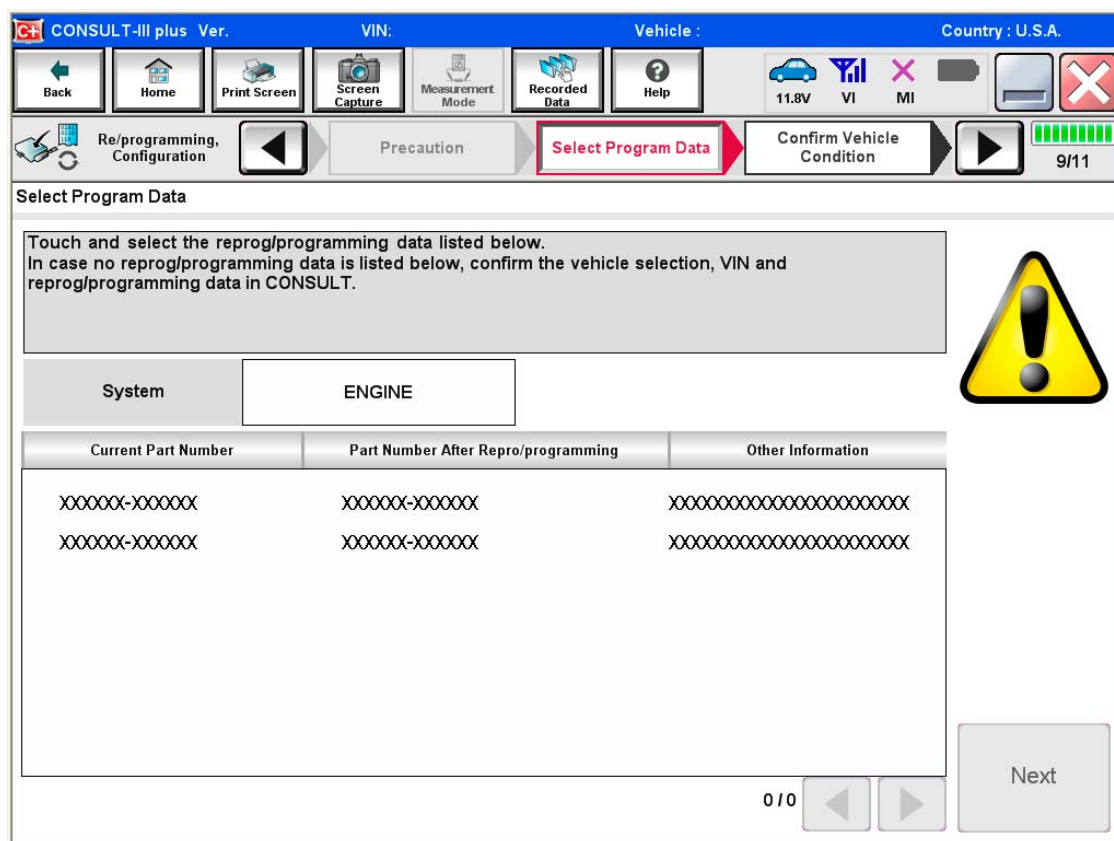
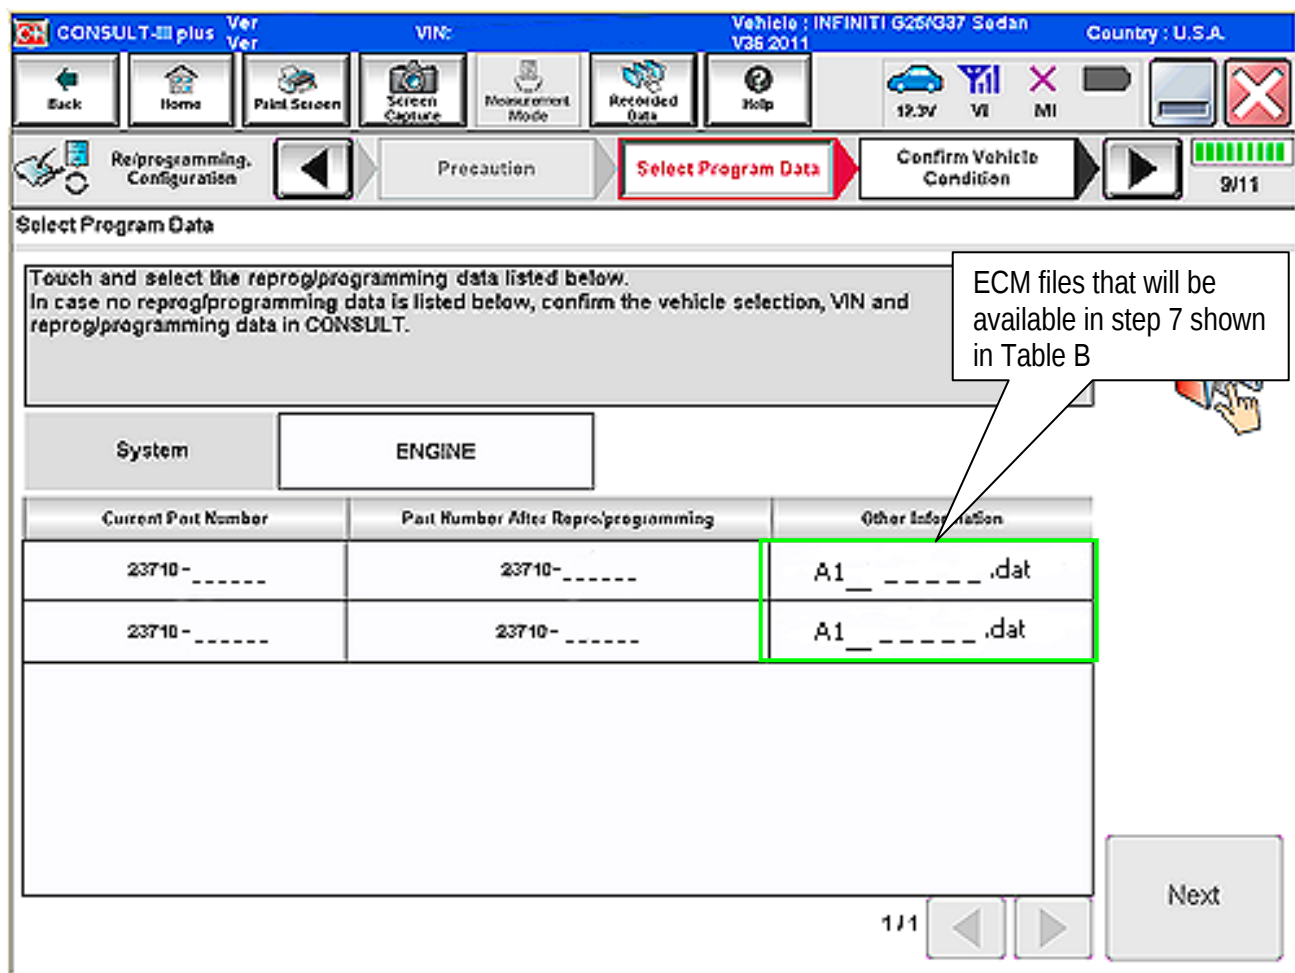

Figure 3
Figure 6
- When programming the ECM the file number written down in step 13 will be displayed in Figure 3 under “**Other Information**”.
- In this case, the screen in Figure 3 displays.
➤ Figure 6 is shown as a reference only and will be displayed instead of the screen in Figure 3 during the ECM reprogramming procedure.